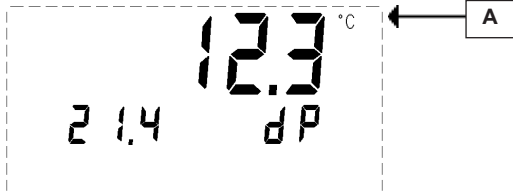

FIG.4
**NOTE:** Having selected HOLD, it is still possible to scroll the held values of MAX, MIN and CURRENT temperatures and to redisplay the temperature scale for any of these. It is also possible to change to dewpoint mode or RH. Note that the scale indicated by **A** in Fig. 4, either °C/°F, has now become the scale indicator for both the dewpoint temperature and the ambient air temperature.